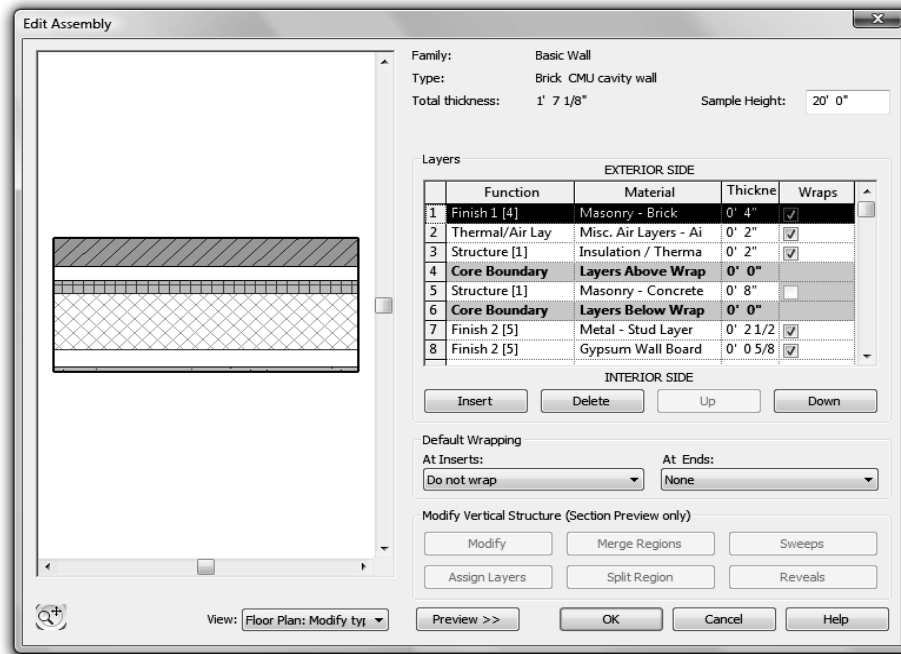

FIGURE 3-2.8 Edit Assembly for new wall type
14. Your dialog should look like **Figure 3-2.8**. Click **OK** to close all dialog boxes.